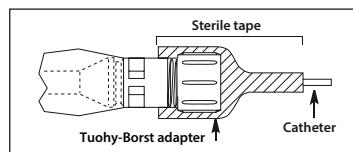

Figure 8
• Tuohy-Borst adapter end of catheter contamination shield should be secured with sterile tape to inhibit insertion catheter movement (refer to Figure 8).